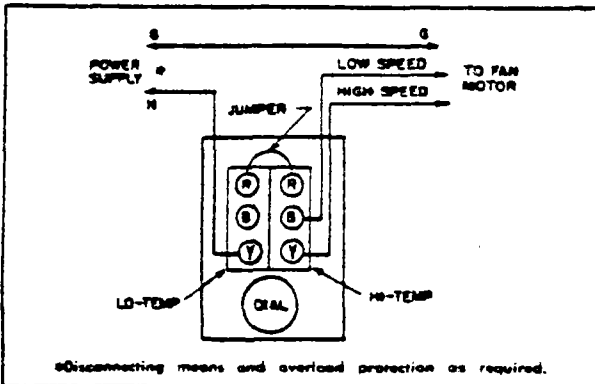
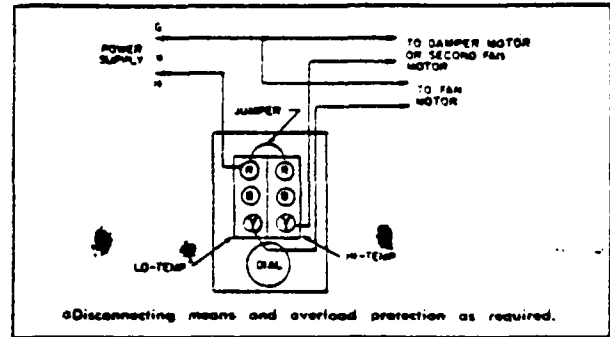

Fig. 6 - Model 2E207 in typical two-speed ventilating fan control circuit.
Fig. 7 - Model 2E207 in control of single speed ventilating fan and volume-increase damper motor.
Figure 6 shows typical wiring for the control of a two speed ventilating fan. When control temperature element reaches the dial settings of Model 2E207, the low temperature switch starts the fan on low speed. If the space temperature
Figure 7 shows Model 2E207 in a typical hook-up for a two-volume fan application. The fan will start when temperature element reaches the dial setting. If the temperature continues to rise, the damper motor will be energized by the high temperature switch.
2. **Model 2E207:** If hook-up is similar to Figure 6, fan should start at approximately space temperature and should change to high speed as the dial is turned counterclockwise to a lower temperature setting. If wiring is similar to Figure 7, the damper should open as the dial is turned counterclockwise. The devices should act in reverse sequence when the dial is turned clockwise to a higher setting.